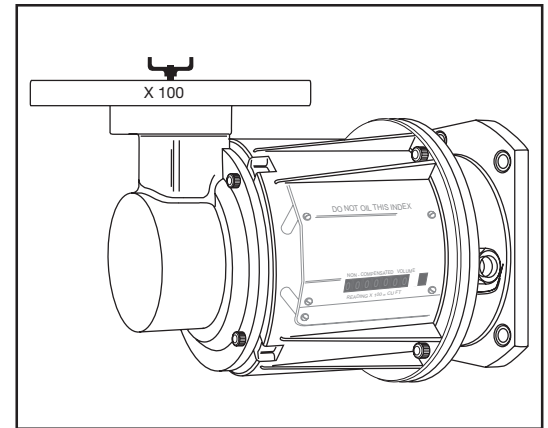

Fig. 3-5 Standard with Instrument Mounting Drive Accessory (optional X10 or X100)
- CMTC with instrument drive accessory. This option would allow the mounting of a pressure compensating index providing full mechanical temperature and pressure compensation or the addition of other pulse output devices. (Fig. 3-5).
• **NOTE/CAUTION:** Each CMTC accessory is identical on all size RPM Series Rotary meters with the exception of the (4) colored set gears. These colored set gears are unique to each size meter due to the required capacities (SCFH) and accuracy requirements of $\pm 1\%$. Each CMTC accessory is marked with the size of the meter on which it is to be mounted.